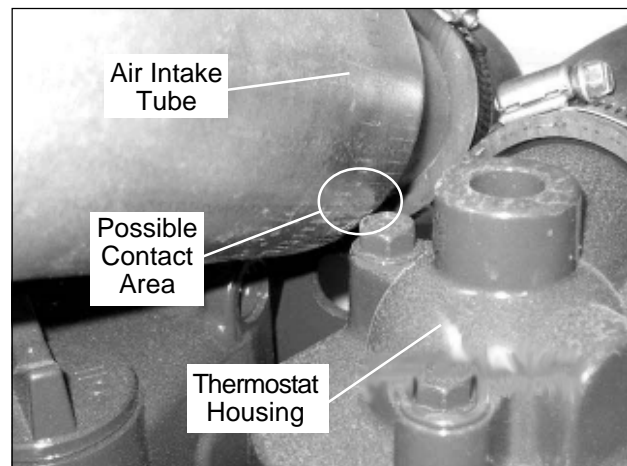

Figure 3 — Inspection Area
4. Look at the point where the intake tube passes near the thermostat housing. One of the cap screws attaching the thermostat housing will be very close, if not touching, the intake tube (refer to Figure 3).